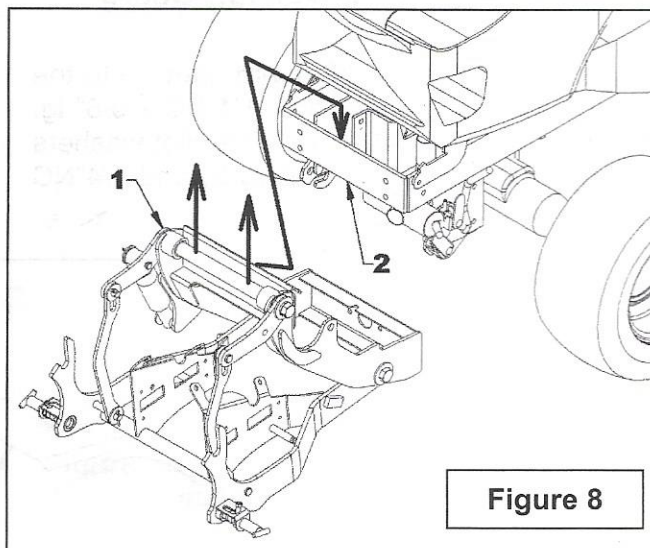

Figure 8
1. **Figure 8:** Place hands on the subframe upper bar (item 1) as shown by the 2 arrows and lift the subframe and hook on the tractor bumper (item 2).